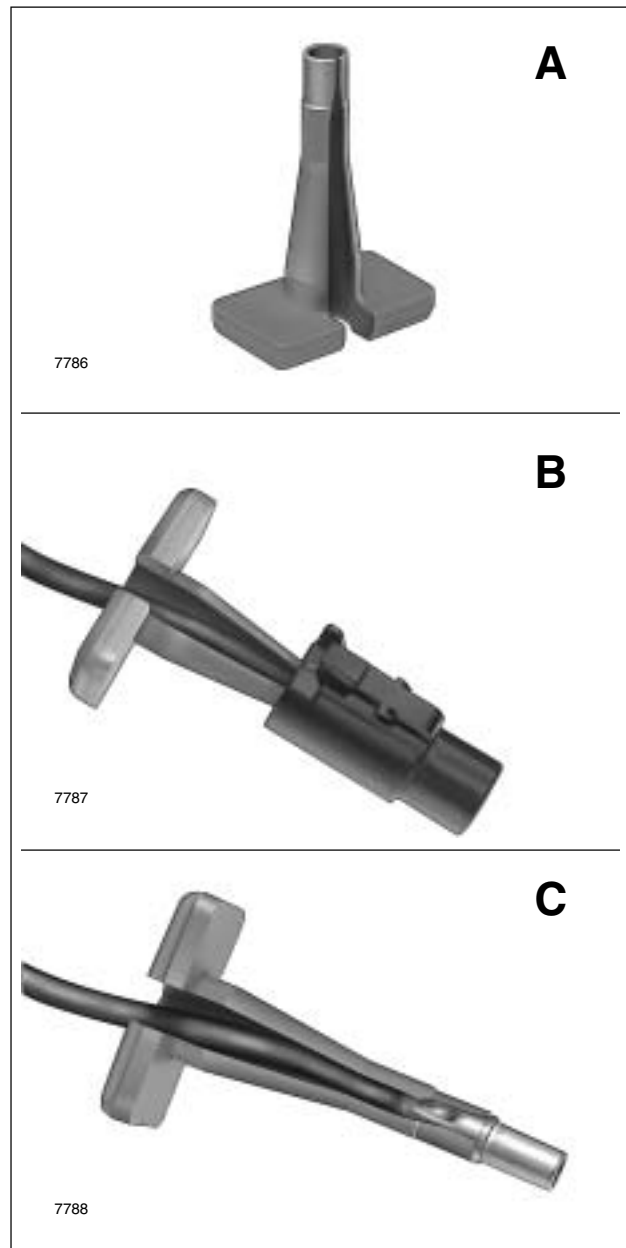

Figure B-10. Remove Socket/Pin Housing
3. Obtain terminal pick tool (Deutsch® 114008) like that shown in A of Figure B-10.
4. Install terminal pick tool onto voltage regulator cable so that the tapered end is in the wire end of the housing. See B of Figure B-10.
5. Push tool into wire end of housing until it bottoms. Gently tug on housing to pull from terminal. See C of Figure B-10.